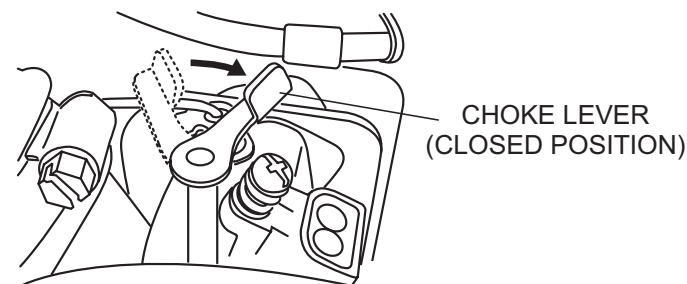

Figure 6. Choke Lever
4. If engine fails to start, move the choke lever (Figure 6) to the half open position to avoid flooding.